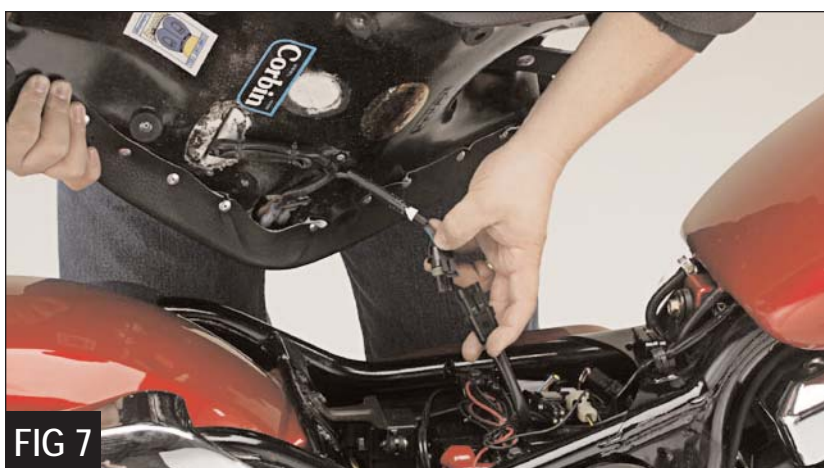

FIG 7
12. You are now ready to install the Rumble Seat. Simply connect the pigtail on the saddle with the one on the bike. Notice this connection only works one way. *Figure 7*